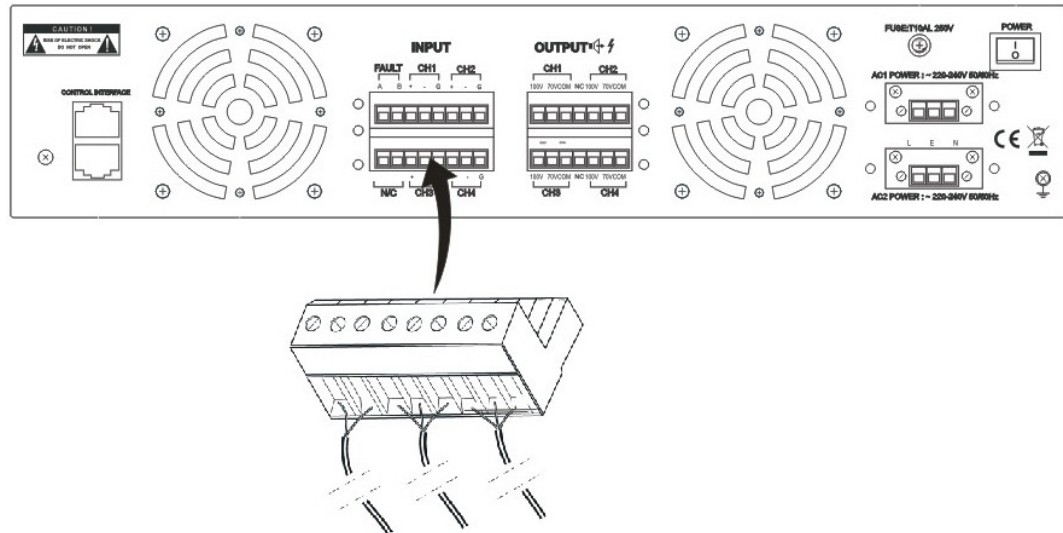

Figure 8 Connecting the input terminals
3. Connect the input terminals to their corresponding input ports, as shown in Figure 8.